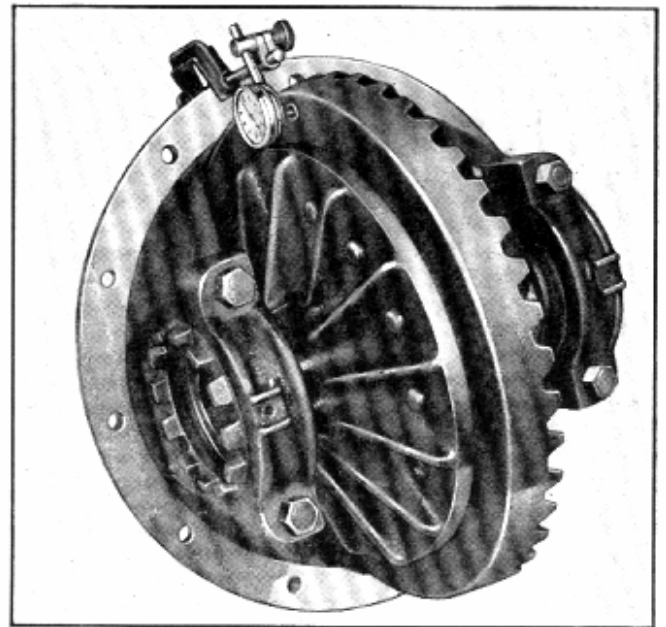

Fig. 38—Checking Run-Out of the Back Surface of the Ring Gear
9. Check the run-out of the back surface of the ring gear which should not exceed $.005$ " as shown in Fig. 38. If the run out does exceed $.005$ ", the ring gear should be removed and the operation repeated with more care.